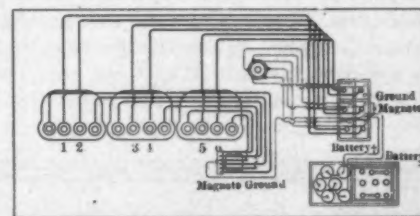

Fig. 6—Illustrating typical wiring diagram of six-cylinder motor
**SIX-CYLINDER FIRING SEQUENCE**—If a variance of the order of firing in the different makes of six-cylinder cars may be taken as an indication, there has not as yet been any definite law evolved in regard to this matter. The wiring of the batteries and magneto are fairly well standardized and usually takes the form of that shown in the accompanying wiring diagram, shown in Fig. 6. The most marked difference in any case so far as the wiring is concerned will be the order in which the contact maker will send a current through to the succeeding cylinders. If the cylinders are numbered as shown in the cut, it may be interesting to note the order in which some of the leading makers of six-cylinder